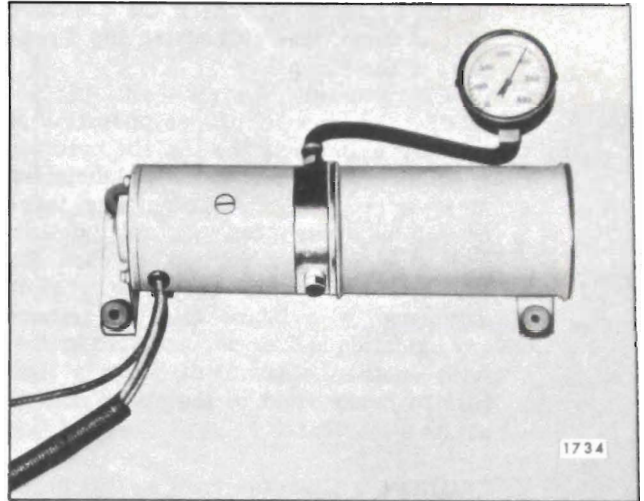

Fig. 13-69 —Checking Pump Pressure
- b. Install plug in one port, and pressure gauge in port to be checked. See Figure 13-69.